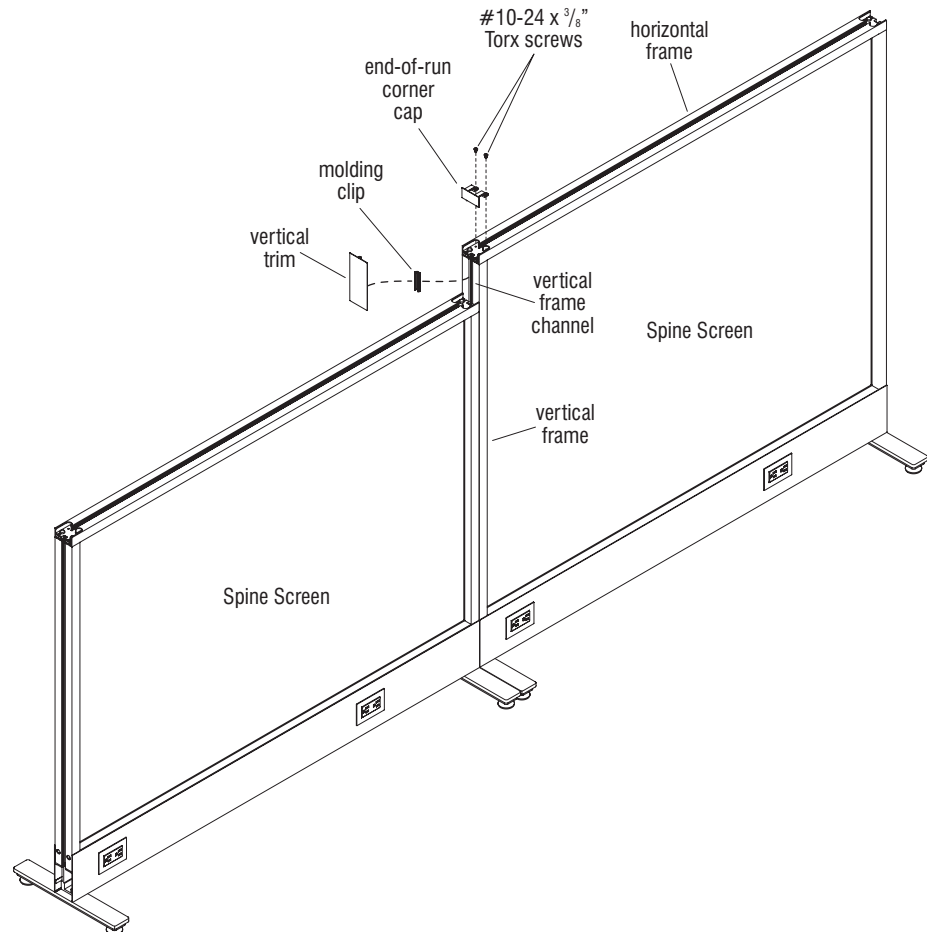

Figure 45
3. On the rib side of the vertical trim, space molding clip(s) evenly apart and press them onto the rib of the vertical trim as illustrated (Figure 45).
4. Position the vertical trim with molding clip(s) up against the vertical frame channel. Using a firm hand, press on the trim at the molding clips to snap molding clips into the vertical frame channel (Figure 45).
5. Place the end-of-run corner cap into the notch formed on the top corner of the horizontal frame. Align the mounting holes on the horizontal frame with the mounting holes on the corner cap and secure with two #10-24 x 3/8" Torx screws (Figure 45).